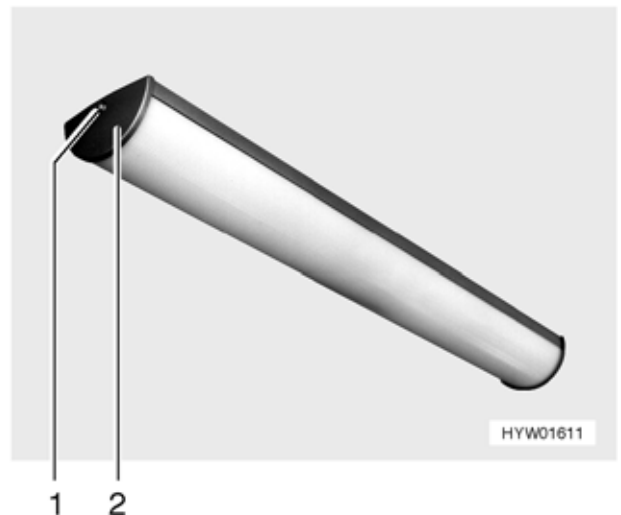

Fig. 166 Living area lamp
- Remove the screw (Fig. 166,1) and take off the cover (Fig. 166,2).